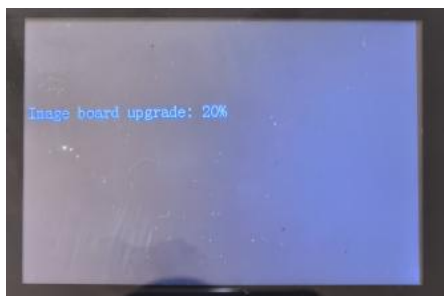

Figure 14 Program upgrade in progress (1)
4. The machine automatically enters the upgrade page (see Figures 14 and 15) and waits for the upgrade to complete.